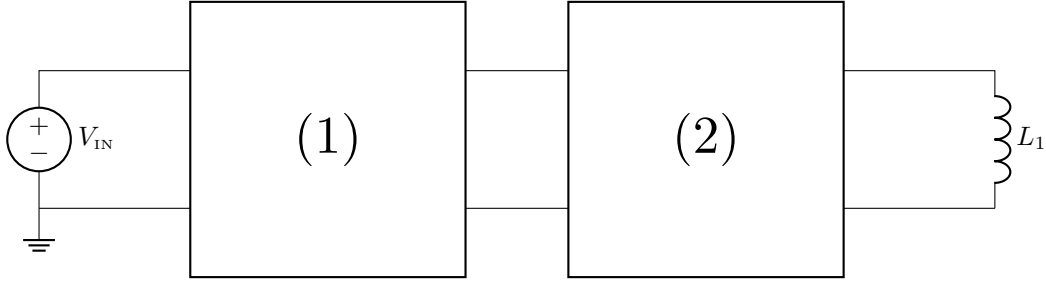

Figure 2: System diagram for the primary side
Figure 2 outlines the hardware of our primary side. A DC voltage  $30V \leq V_{IN} \leq 45V$  is used as the input. As we must have AC for IPT to work1, a **full-bridge inverter** (1) transforms the DC voltage to a high-frequency AC voltage. An **LCL** compensation network (2) with partial series compensation follows it.  $L_1$  is the primary coil.